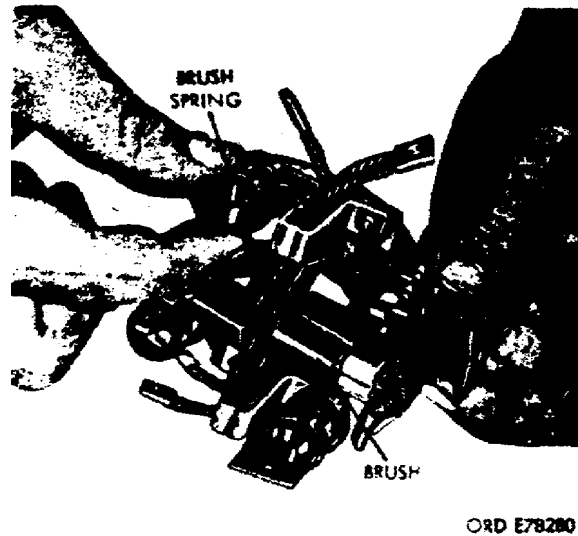

Figure 28. Brushes in holder.
e. Brush holder:: Assemble the eight brushes and springs into the holder in preparation for final installation (fig 28).